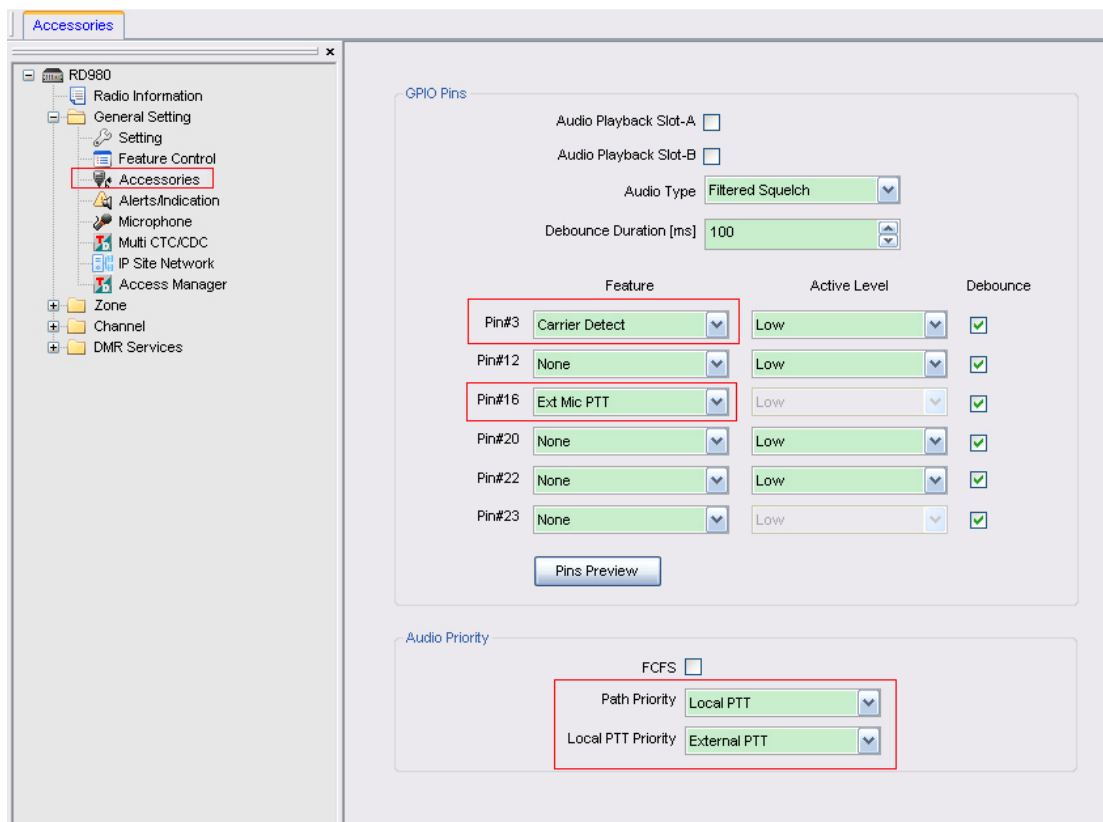

Figure 5.2-1 Accessories Configuration for Analog Repeater 1
- 2) Go to “General Setting -> Accessories”. See Figure 5.2-1.
3) In the “GPIO Pins” box, set the option “Pin#3” to “Carrier Detect” (this option shall be set to “CTCSS/CDCSS Detect” when it is one of the conditions for signal retransmission). See Figure 5.2-1.
4) In the “GPIO Pins” box, set the option “Pin#16” to “Ext Mic PTT”. See Figure 5.2-1.
5) In the “Audio Priority” box, set the option “Path Priority” to “Local PTT”, and set the option “Local PTT Priority” to “External PTT”. See Figure 5.2-1.